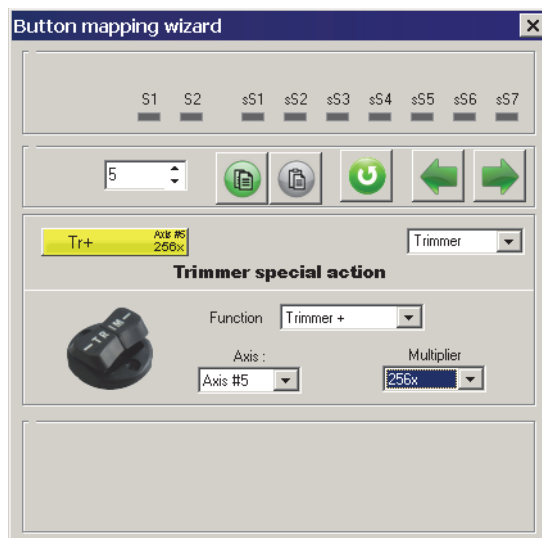

Fig. 4.43.
**Trimmer+, Trimmer-, Trimmer Auto+, Trimmer Auto-** Button mapping wizard dialog for these trimmers is shown on Fig. 4.43.